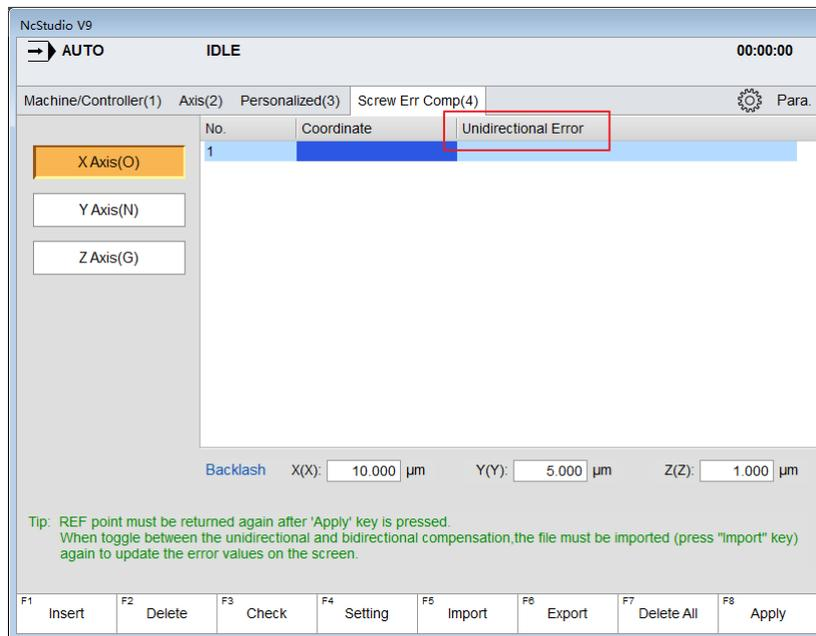
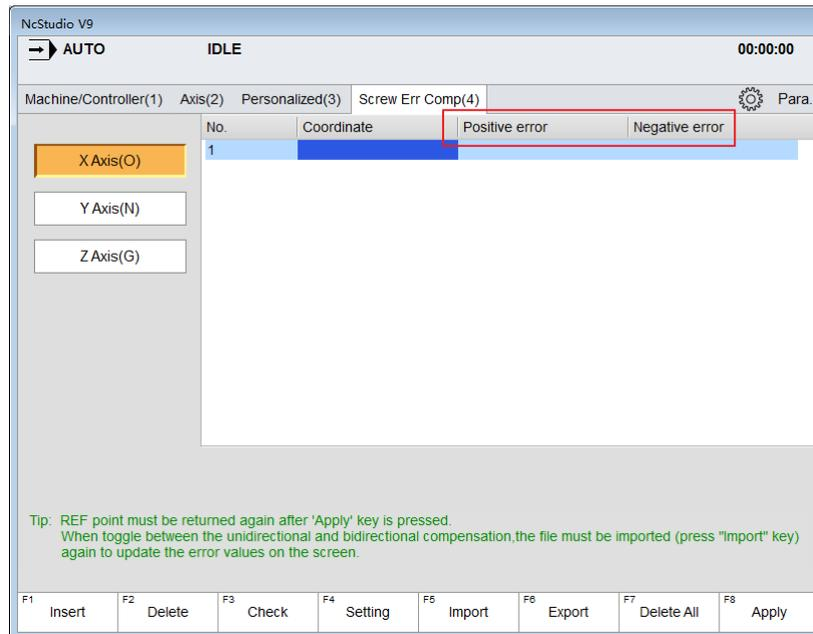

Fig. 3-59 Interface 「Unidirectional Compensation」
Fig. 3-60 Interface 「Bidirectional Compensation」
Press the advanced function selection key  to access interface 「Parameter」, open manufacturer access, and you can find parameter N12000. Set the value of the parameter as you need no compensation, single compensation or double compensation. And then press key “4” to access interface 「Screw Error Comp (4)」. Unidirectional and bidirectional compensation interfaces are shown in Fig. 3-59 and Fig. 3-60.